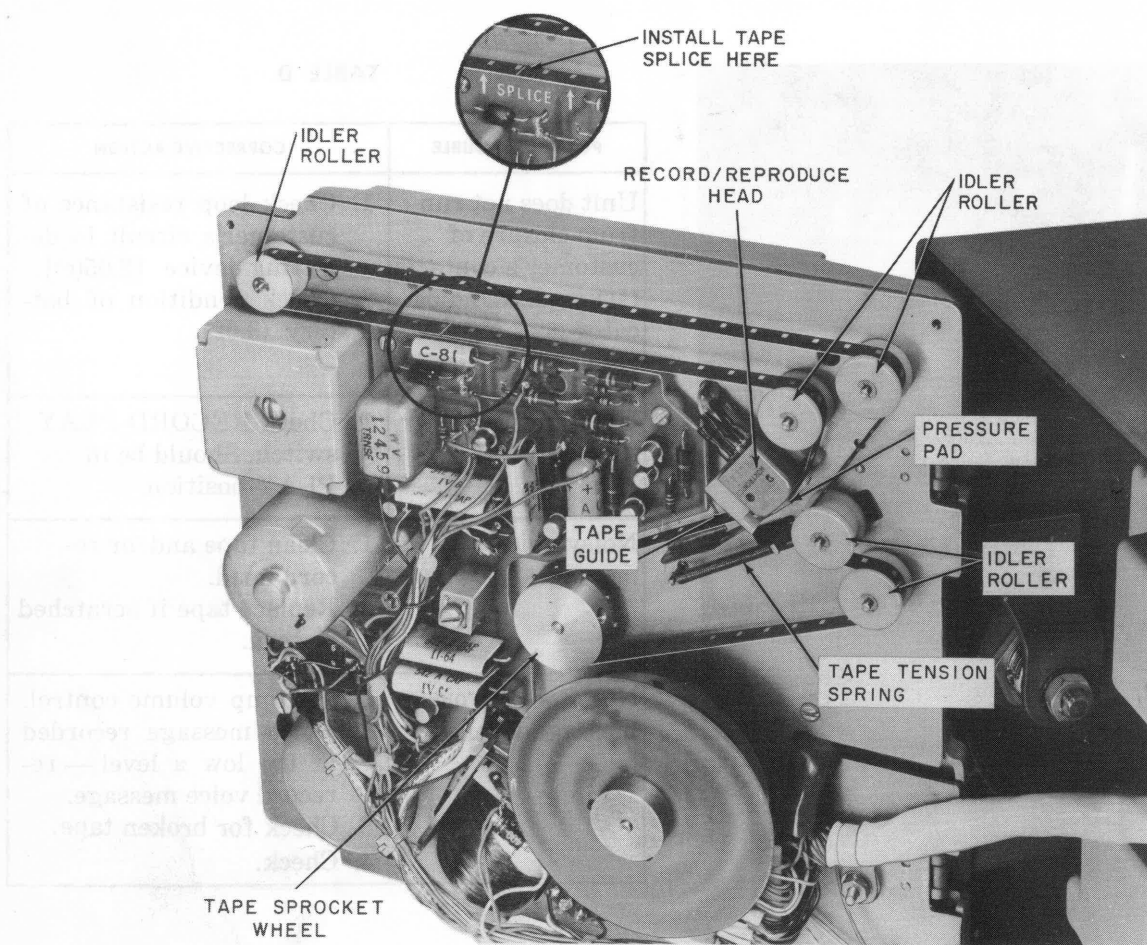

Fig. 12—Details of Tape Installation
- (c) Remove tape from tape guide (Fig. 12). Exercise caution not to tear tape on the square corner of the guide.
- (b) Place the tape around the idler rollers as shown in Fig. 12.
- (d) Position the splice of the tape approximately at the center of capacitor C-81 or between arrows above the word SPLICE (Fig. 12).
- (f) When placing the tape over the face of the record/reproduce head, be careful not to scratch or tear the tape on the square corner of the tape guide (Fig. 12).
- (g) Replace tape tension spring (Fig. 12).